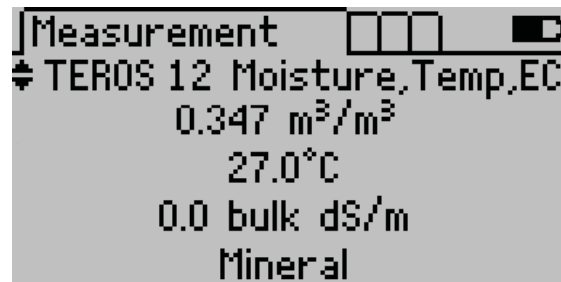

Figure 4 Measurement screen with the desired sensor
2. Use **UP** and **DOWN** to scroll through the sensor list until the correct sensor type appears in the Measurement tab (Figure 4).